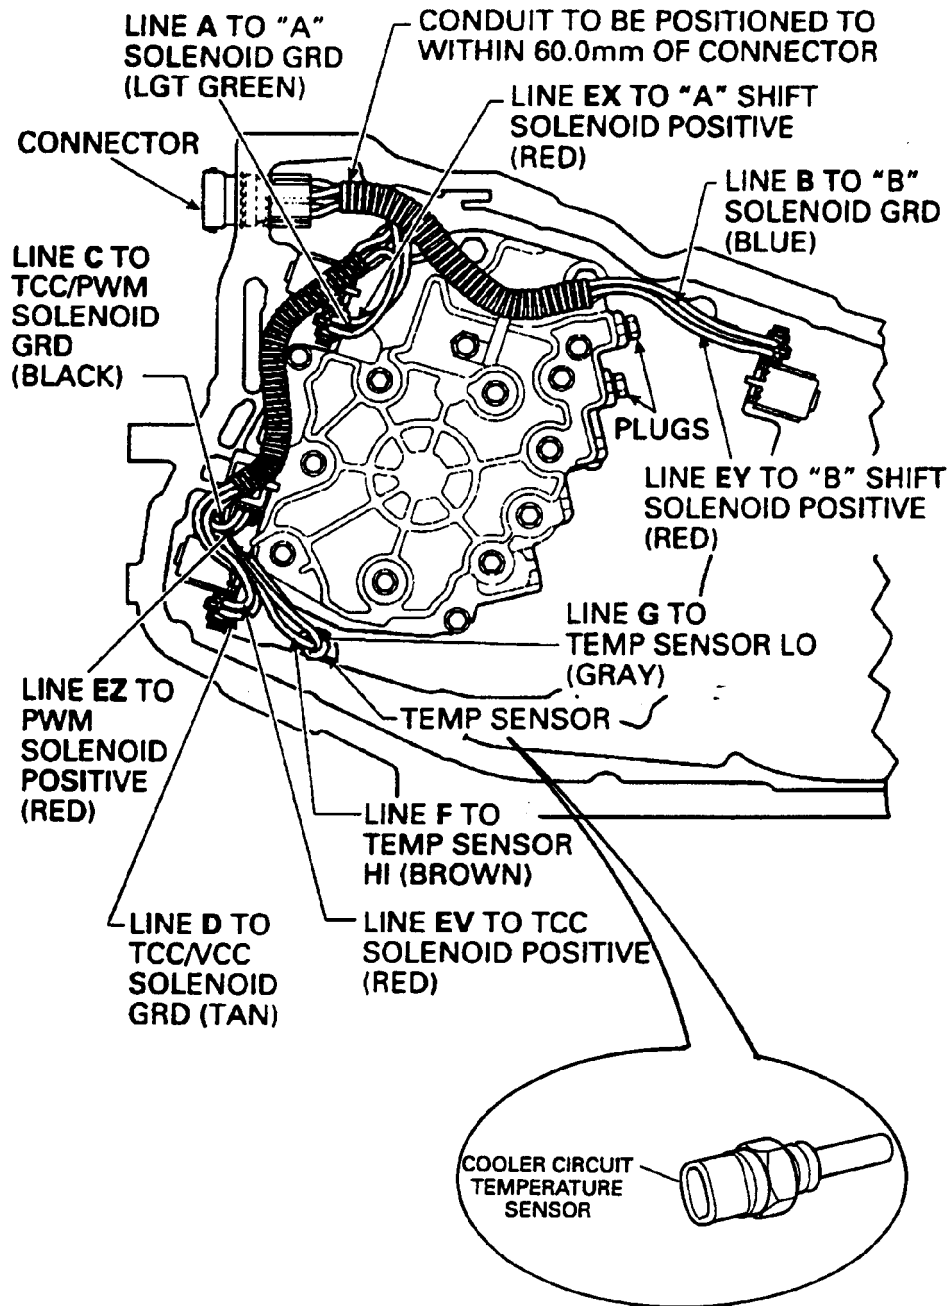

Figure 5
**(3) TEMPERATURE SENSOR** - Added internally to the transaxle to give the PCM transaxle temperature information. There are 2 different types of the temperature sensor. One sensor is screwed into the channel plate near the TCC accumulator bore and monitors cooler fluid temperature. Refer to Figure 5 for this sensor. The other type sensor is incorporated into the wiring harness and clips to the valve body spacer plate, as shown in Figure .2. Regardless of which type temperature sensor you have, the wires will will go through terminals "IF" & "G" in the new case connector.